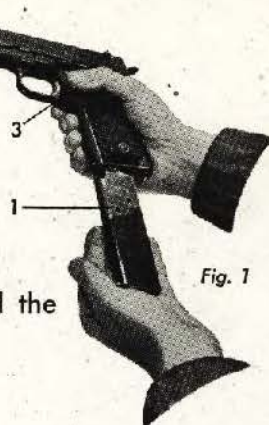

Fig. 1
**Insert the magazine** and push it in until it catches. (See fig. 1)